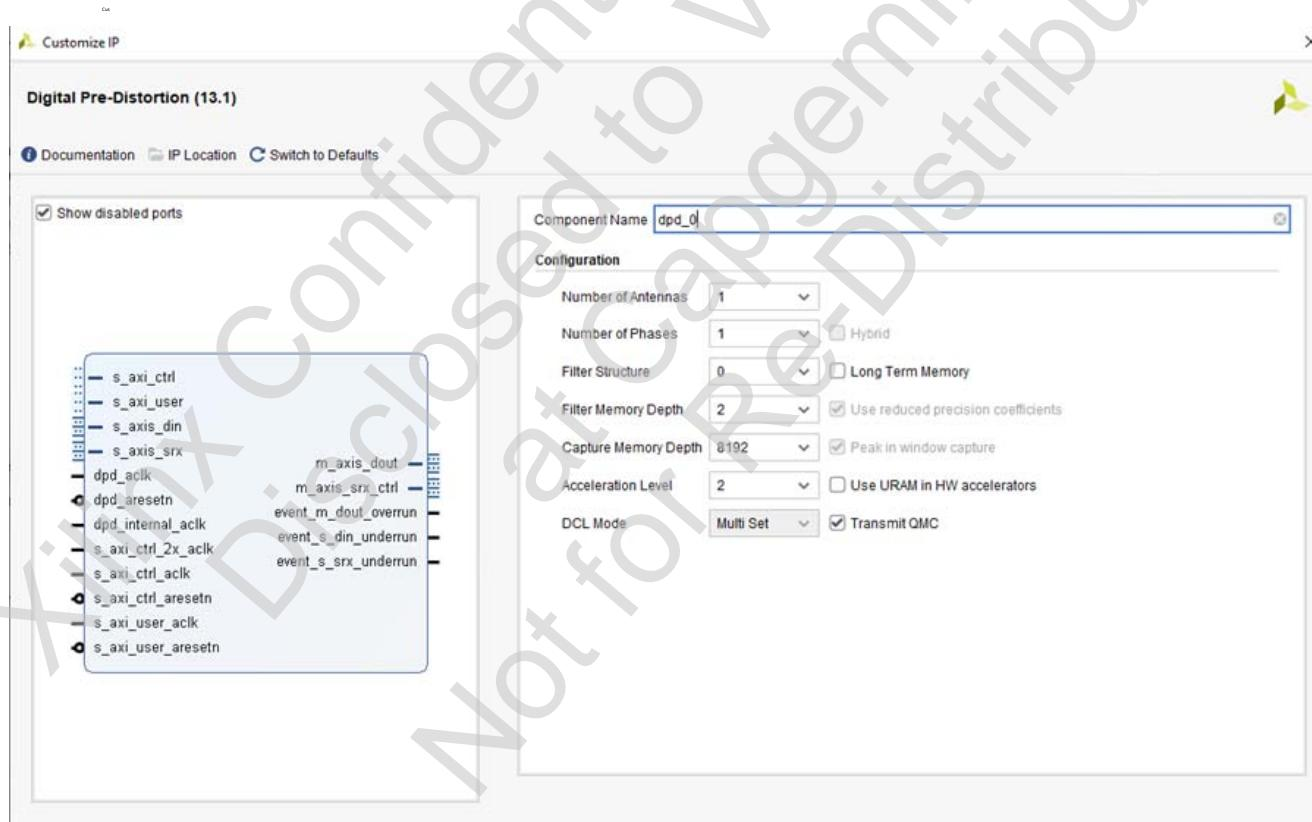

Figure 4-1: Customize IP (When Targeting MPSoC/RFSoC Gen 1/2/3)
6. A new window, **Customize IP**, shows various customizable parameters of the IP for DPD v13.1. These parameters are explained in the following sections. See Figure 4-1. A similar customization window is displayed, if the IP Core is created in an RTL design.